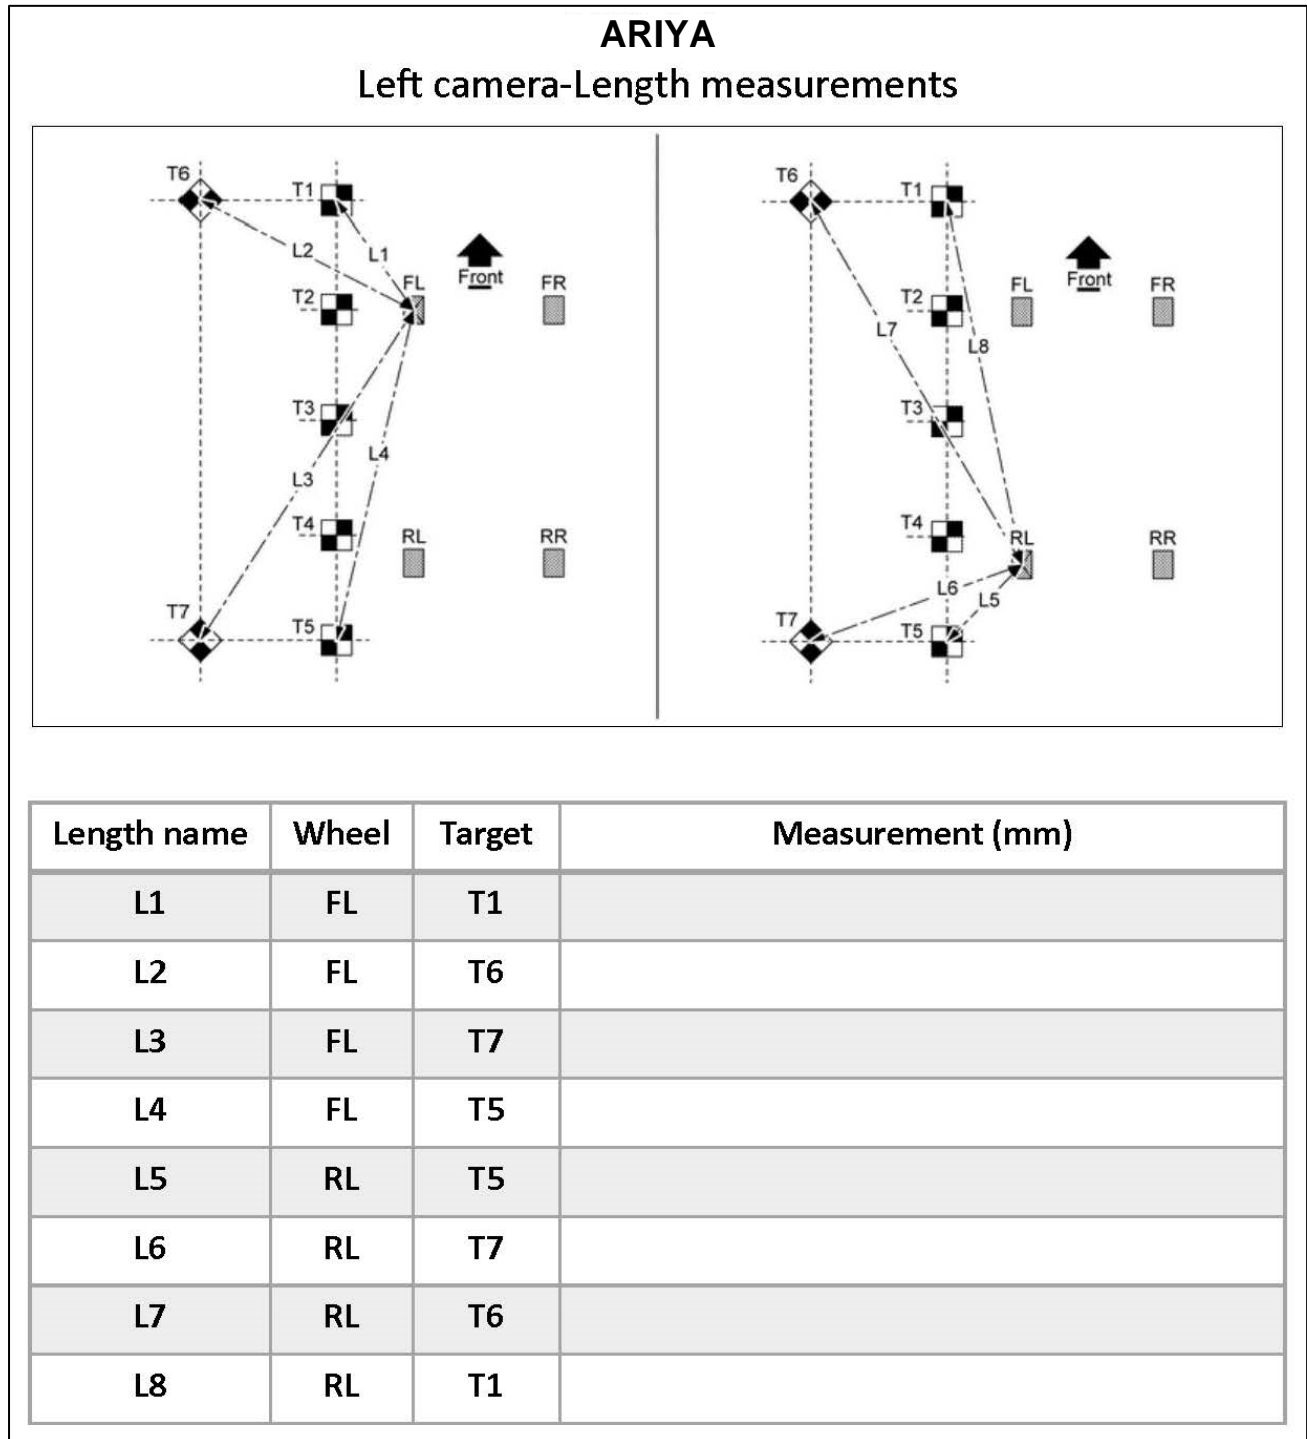

Figure 54
34. Measure the distance between the wheel center point and the center of the calibration targets T1, T6, T7, and T5, as shown in Figure 54 below.
IMPORTANT: All measurements must be in millimeters (mm). Refer to the illustrations in Figure 54 to ensure the correct measurement is documented in the correct order and for each calibration target.